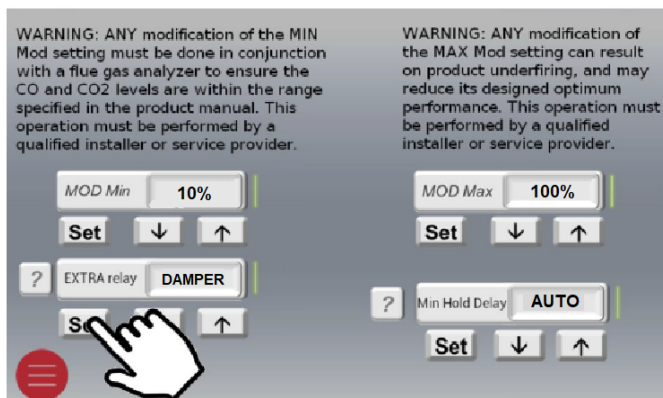

Figure 59. Boiler 1 "Set Function"
6. When 'Damper' selection appears, hit 'Set' button per **Figure 59**.